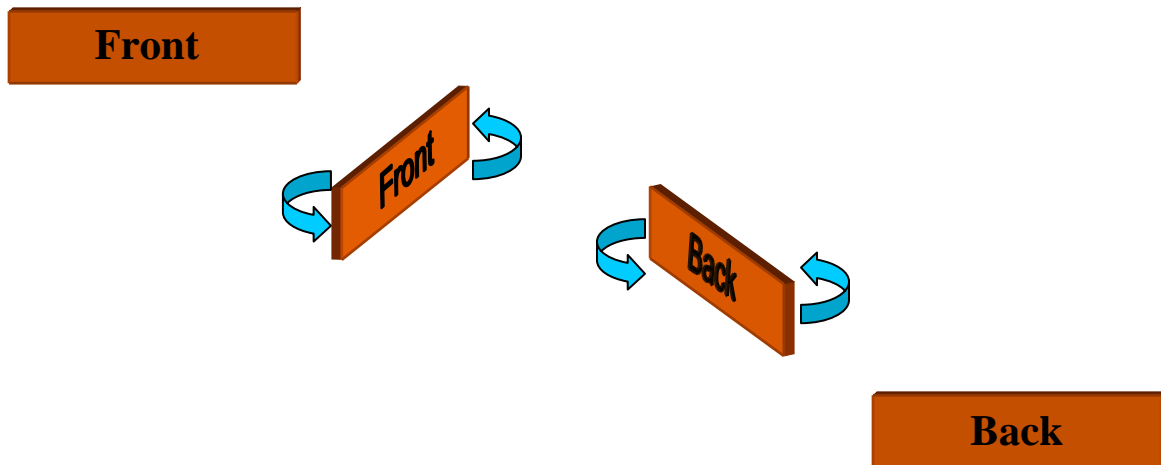

Figure 4-6
6. Turn the wicking foam side to side. The result will be that the front face becomes the back face with the top remaining at the top and the bottom remaining at the bottom, as shown in Figure 4-6. If needed, clean the wicks before reinserting into the tank. Put the turned wicking foam back into the oil tank tray. Repeat this step for the other wicking foams. Ensure the wicking foams line up evenly across the top, with 1-3/8 inches of wicking foam showing above the tray edge, and that they are firmly seated in the oil tray.